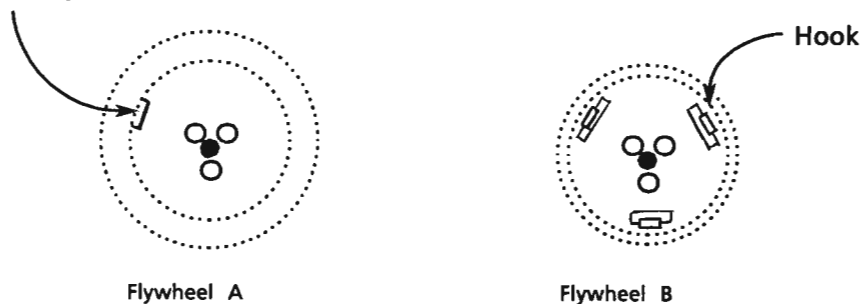

Fig 16 Hook and Cutting on the flywheel
3. Remove the 6 screws ① holding the bracket.
5. Put the cutting on the flywheel A together the bracket's pawl as shown in Fig.16(Flywheel A) and check that the flywheel B is removed from the bracket's pawl(Fig.16-Flywheel B).